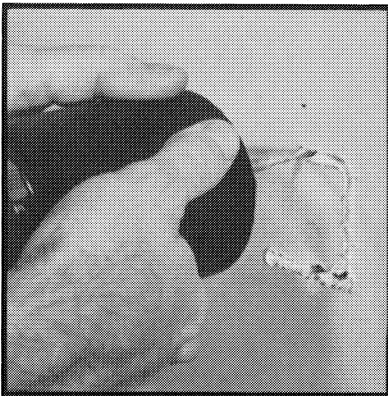

Fig. 5
7. Using the electrical box as a template, move the Drywall Cutout Unit in a counterclockwise direction (maintain slight pressure against the side of the electrical box) to complete the cut-out (see Fig. 5 thru 8).